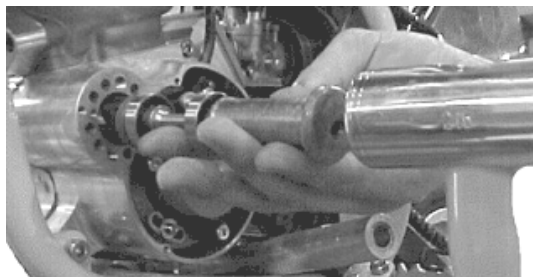

Figure 41
4. Drain engine transmission oil by removing drain screw using a 13mm- hex wrench. (item 2 in the figure below).
7. Stick a 3mm hex key in the water pump shaft cross hole, and remove belt retainer screw using a 4mm hex key. (Figure 41 - item 1)
13. Using a liberal amount of grease on the outside seal, bearings and inside of case, reinstall bearing assembly by using a 0.500" ID by 1.000" OD steel tube 2" long and tap on end of tube per figure 41.